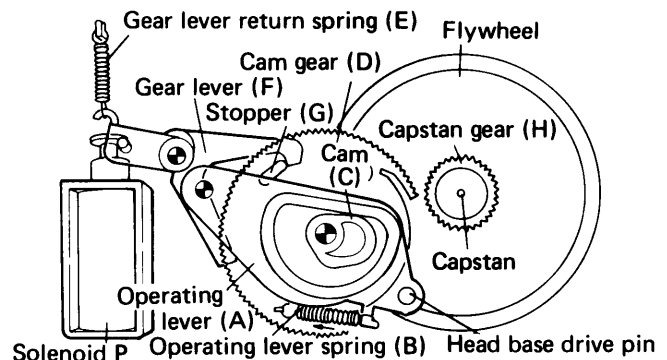

Fig. 4-7 STOP operation
• Stop Mode (see Fig. 4-7)
The head base shift mechanism during stop mode is shown in Fig. 4-7. Operating lever (A) presses down towards cam (C) due to operating lever spring (B). With cam (C) combined with cam gear (D), clockwise torque is applied to this cam gear. Solenoid P is inactive, and the hook of gear lever (F) is kept against stopper (G) of cam gear (D) by the cam gear return spring (E), thereby keeping cam gear (D) stationary. The flywheel is belt-driven by the capstan motor, and rotates counterclockwise together with the capstan gear.
1. When solenoid P is deactivated ⑪, the arm of gear lever (F) is disconnected from stopper (G) by the action of gear lever return spring (E) ⑫.
2. Operating lever spring (B) forces operating lever (A) against cam (C) ⑬, resulting in rotation of cam gear (D) ⑭ and lowering of the head base drive pin ⑮.
3. Stopper (G) catches the hook of gear lever (F), stopping the mechanism in the condition shown in Fig. 4-7 (stop mode).